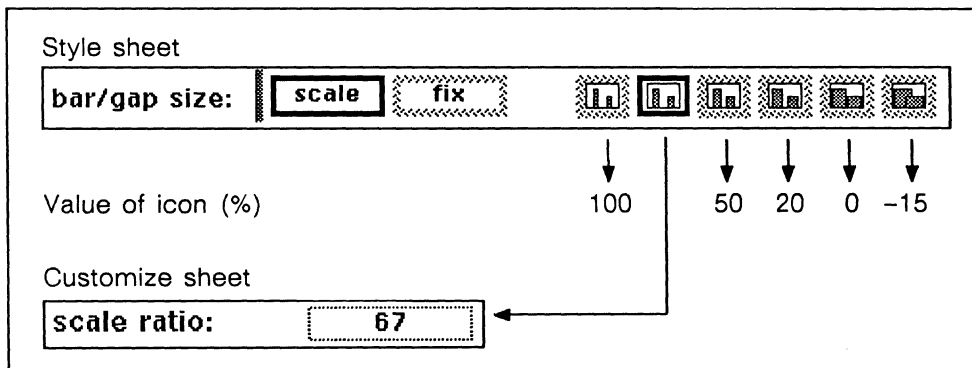

Figure 29-20. Numeric value of scale icons
**Scale ratio.** When you select the *scale* option on the Style sheet, you can select one of six icons. Each of these icons represents a numeric value expressed in percentages on the Customize sheet (Figure 29-20). The numeric value represents the percentage of the gap width to the bar width.
In Figure 29-20, the selected icon indicates that the gap width is 67% of the bar width. To adjust the bar/gap scale to a percentage not offered on the Style sheet, use the *scale ratio* on the Customize sheet. For example, if you want the gap width to be 80% of the bar width, enter 80 as the *scale ratio*.